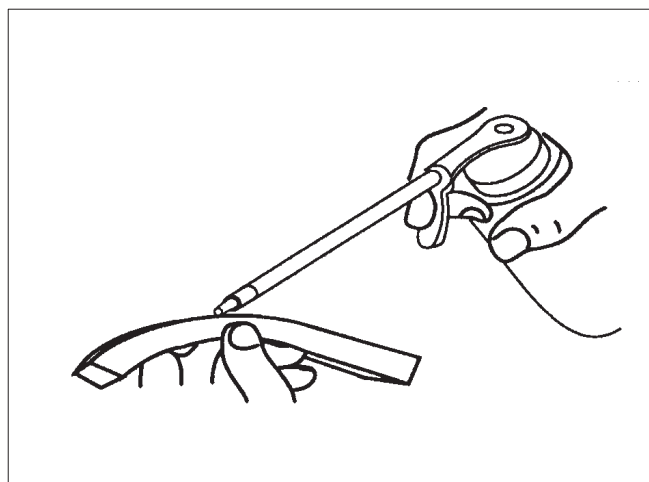

Figure 1-7. Oiling Air Filter Element.
3. Apply clean SAE 30 oil to the air filter (Figure 1-7).